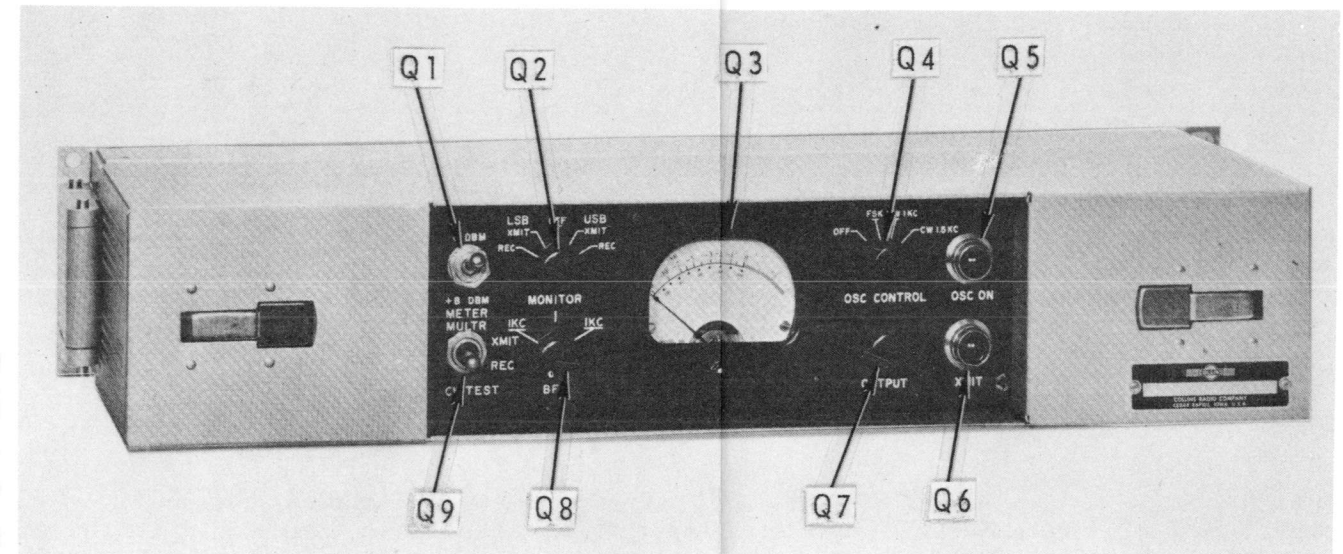

Figure 2-5. Converter-Monitor
Use the converter-monitor schematic diagram, figure 5-119, servicing diagram, figure 4-22, and table 3-1 (volume 2) of NAVSHIPS 93285(B) to match the indicators and controls called out in figure 2-5 of this text (page 2-67) with their circuit and transceiver functions.